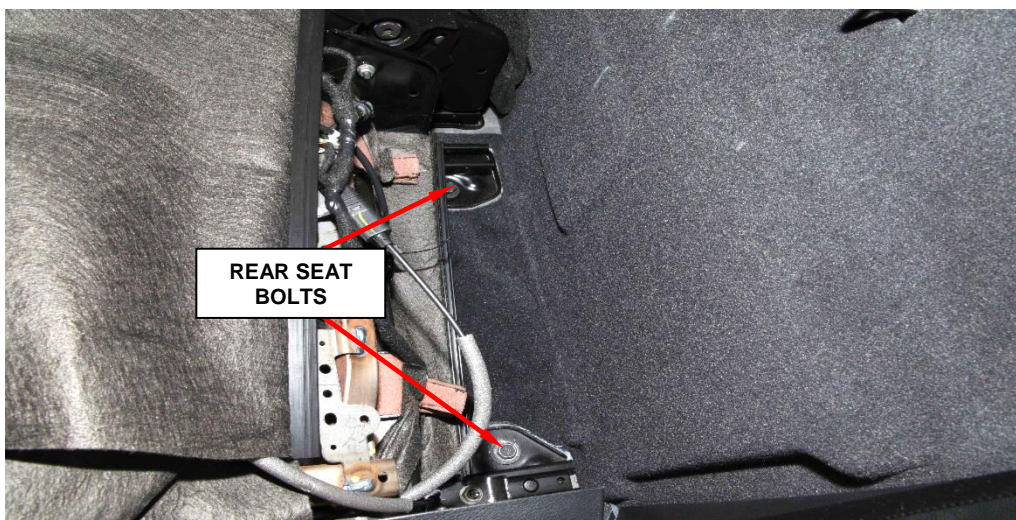

Figure 3 – Rear Seat Bolts
7. Remove the rear seat bolts, then remove the rear seat/s (Figure 3).